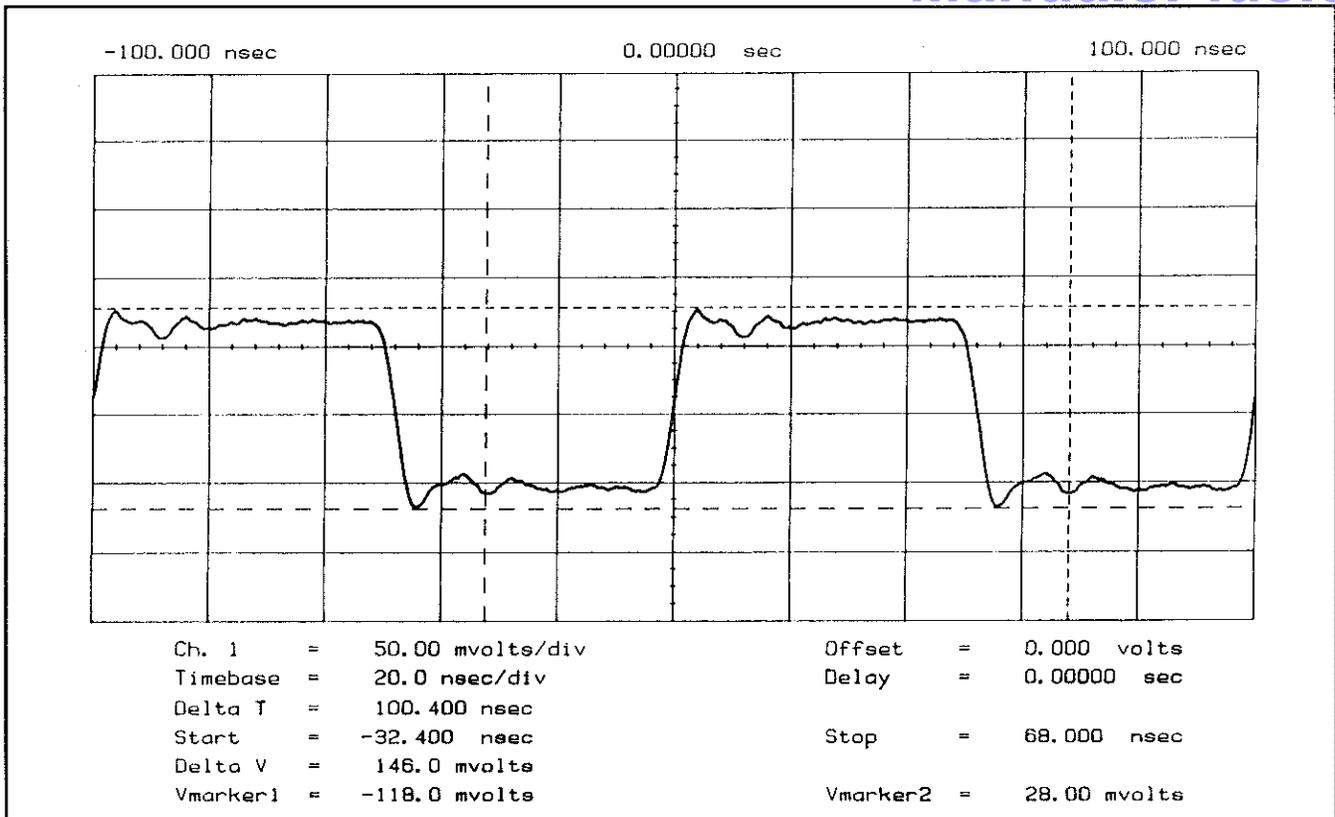

Figure 7C-8. Comparator Input Pin A2U4(3) [A2U15(3)] Waveform
- B. Measure Comparator input pin A2U4(3) [A2U15(3)]. Ensure that a 10 MHz square wave having a DC offset of -480 mV is measured (see *Figure 7C-8*).